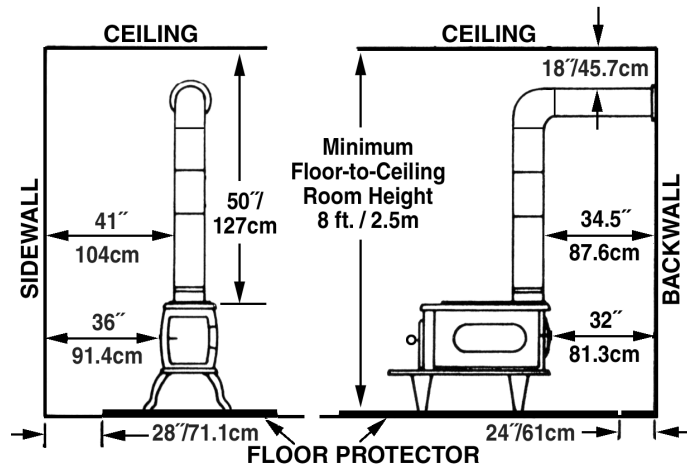

Figure 7 – Minimum Clearance Dimensions from Combustible Surfaces
1. The stove must be placed on solid concrete, solid masonry, or when installed on a combustible floor, on a Type 2 floor protector listed to Underwriters Laboratories Listed Standard UL 1618, such as Hy-C or Imperial Model UL 2851BK. All manufactured floor protection must be solid-surface non-combustible material and have an **R-value of 1.19** or equivalent. Floor protection must have a **minimum thickness of 1¹/₂ 25.4mm**. (R value = 1.19, K value = 0.84 see page 17 to calculate R-factors of alternative materials). The floor protector must extend at least 18¹/₄ 46cm beyond the front of the access door, 8¹/₂ 21cm to the sides, 8¹/₂ 21cm beyond the rear of the stove, and **must** extend under the stove pipe and 2¹/₂ 50mm on either side if it is elbowed towards a wall (see figure 7 & 9 and consult local building codes and fire protection ordinances.)
CAUTION: (FIRE HAZARD) CARPETING AND OTHER COMBUSTIBLE MATERIAL MUST NOT COVER THE FLOOR PROTECTOR. THESE MATERIALS MUST REMAIN OUTSIDE OF COMBUSTIBLE CLEARANCES, SEE FIG. 7 - 9.
4. After observing the clearances to combustible materials (figures 7–9), locate your floor protector accordingly (figure 7) and carefully place the stove in your selected location. Install connector pipe, elbows, and thimble as required, utilizing either a recently cleaned and
5. Use round 6¹/₂ 152mm dia., minimum 24 MSG black or 26 MSG blue steel stove pipe to connect the stove to the chimney. Do not use galvanized stove pipe. Secure connector pipe to the flue collar with three (3) sheet metal screws. Use three screws in each stove pipe and/or elbow joint to firmly hold the pipe sections together. **DO NOT** connect this stove to any air distribution or duct system.
6. Recheck clearances from the stove, connector stove pipe, and corner clearances using the illustrations in figures 7–9 and your local building codes or fire protection ordinances.